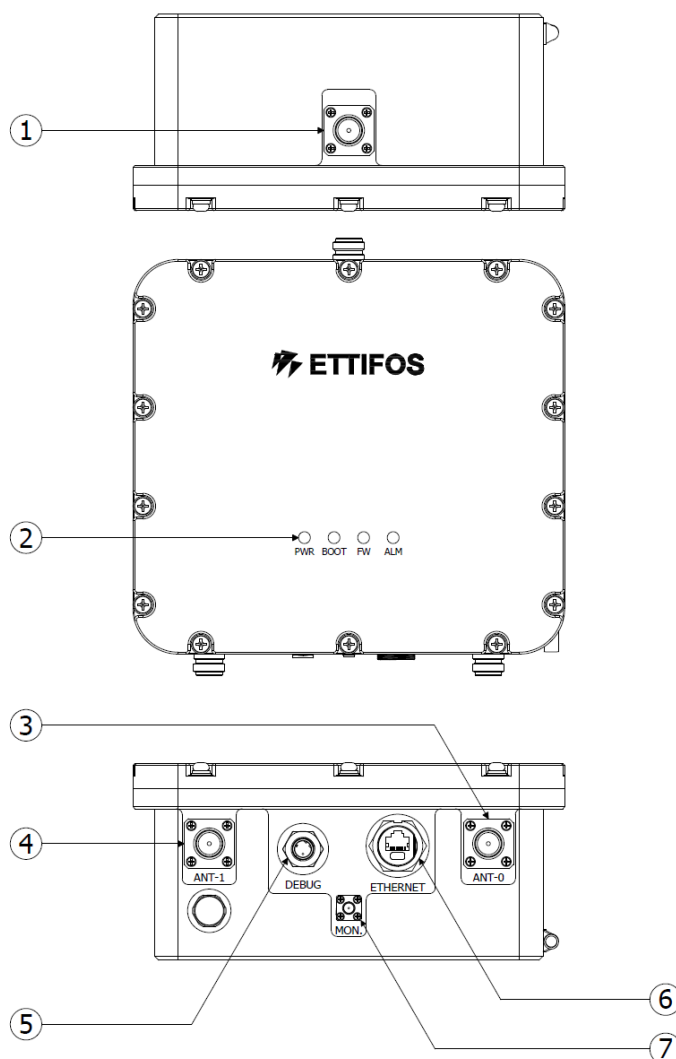

Figure 3: Interfaces
Interfaces from ① to ⑦ in Figure 3 are explained in Table 5.